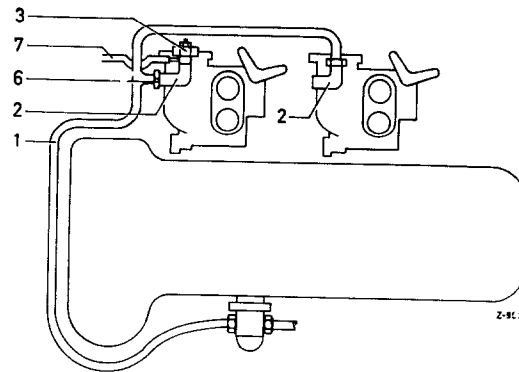

Fig. 07-0/25
9. Unscrew the accelerating pump (8) and remove the cover taking care not to damage the pump diaphragm. After carefully tapping out the shaft remove the pump arm (see Fig. 07-0/24).
10. Install the new pump arm (9) and drive in the shaft. Screw the cover to the accelerating pump making sure that the pump diaphragm is correctly positioned. Screw the accelerating pump to the carburetor.